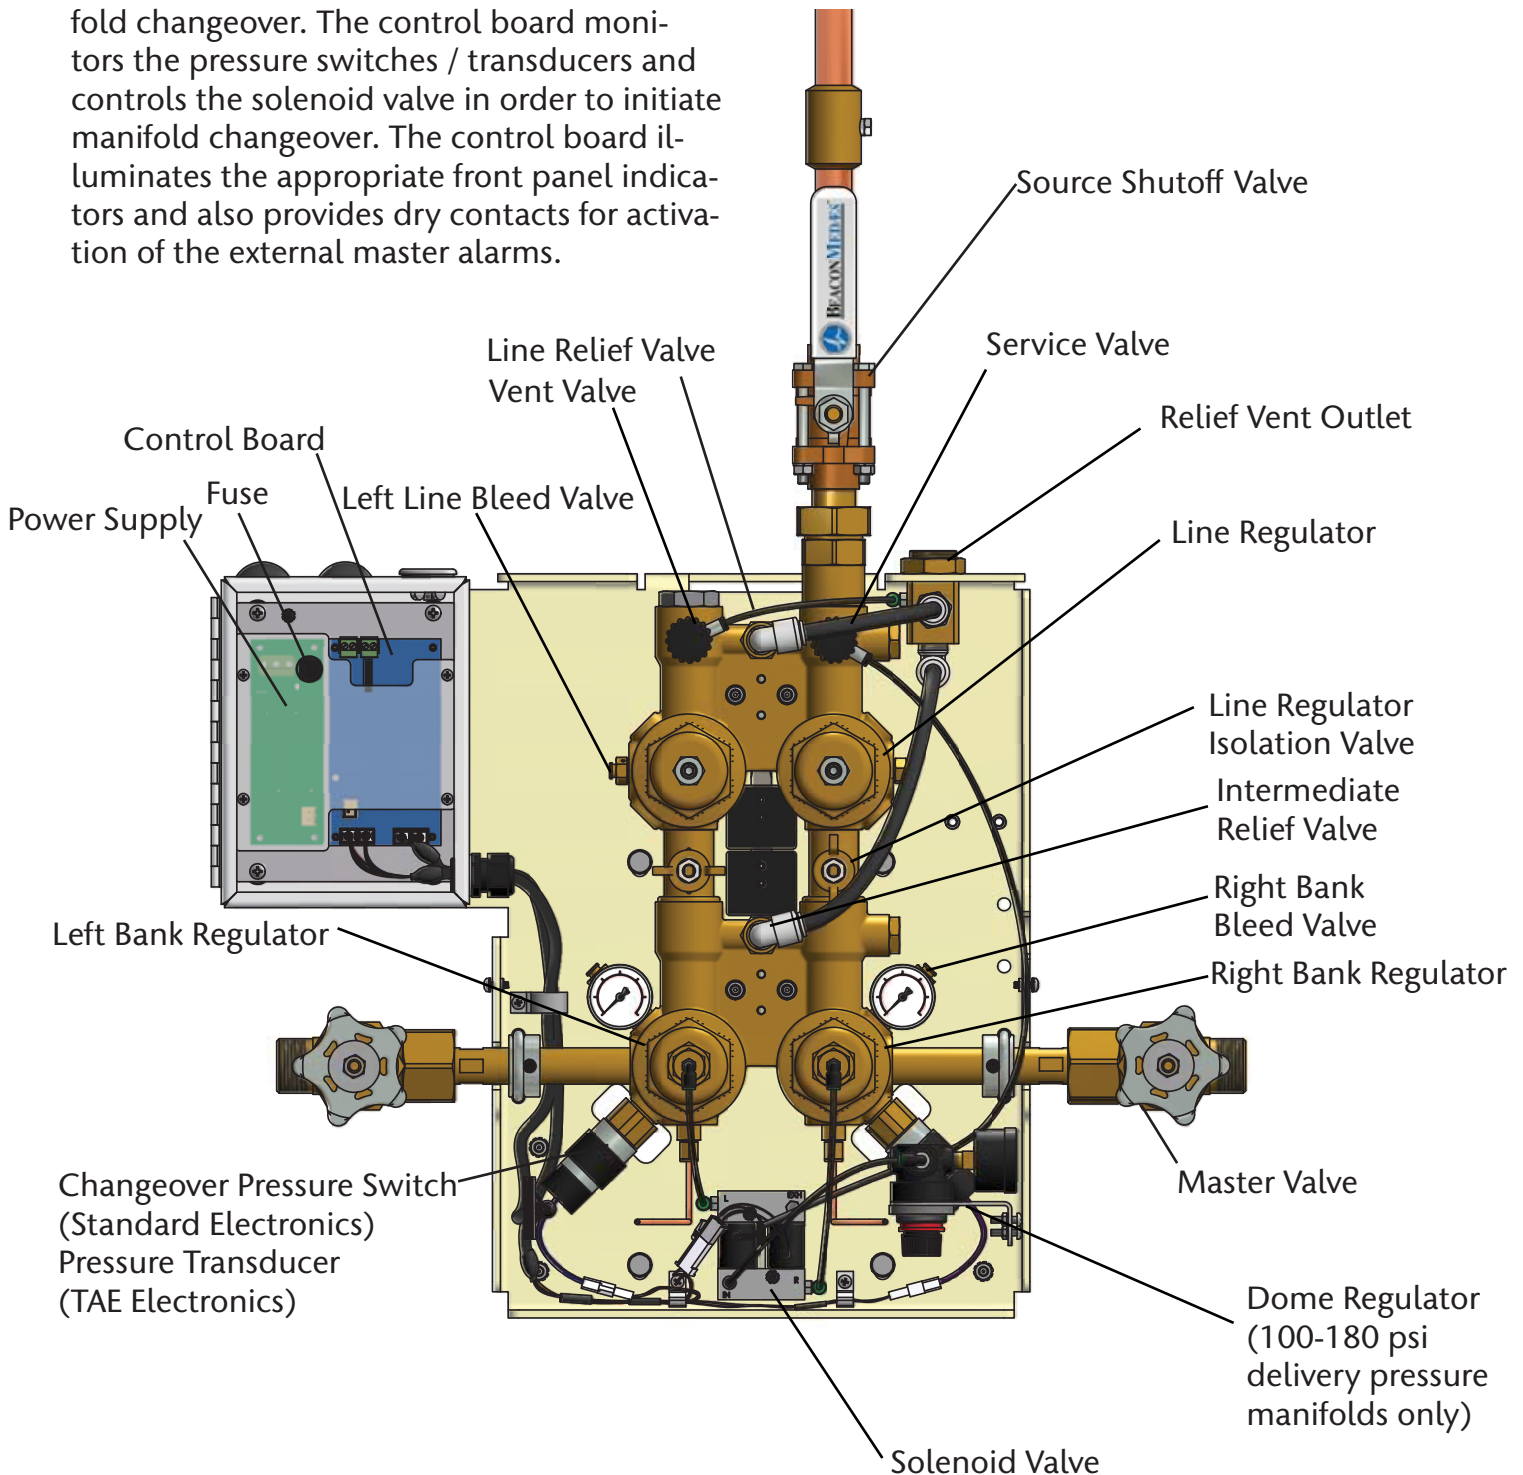

Figure 15 (NFPA version shown)
5. Close two internal isolation valves on inlets of line regulators. (Refer to Figure 15 & 16 for component location).
When shipped from factory, inlet and outlet isolation valves to both line regulators are in open position. Refer to Figure 15 & 16 for location of components called out in this procedure.